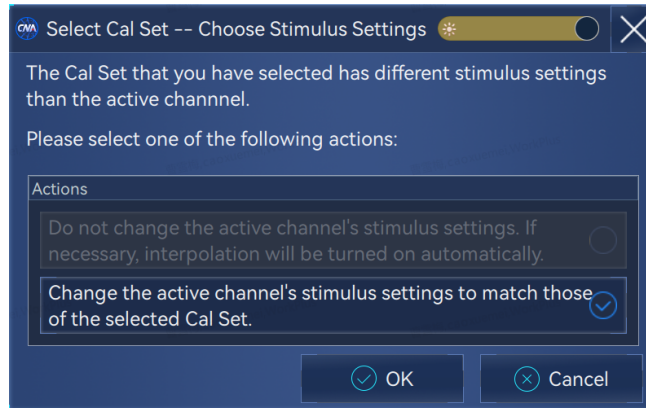

Figure 7.21 Choose stimulus settings
- 3) The stimulus setting of the calibration set is inconsistent with that of the channel, and the frequency range of calibration set is greater than that of the channel. As shown in Figure 7.21, the user can choose not to change the settings of the active channel, at which
- 4) The stimulus setting of the calibration set is inconsistent with that of the channel, and the frequency range of calibration set is less than that of the channel. In this case, option 1 shown in Figure 7.21 becomes grayed and cannot be selected, and the user can only change the configuration of the active channel.